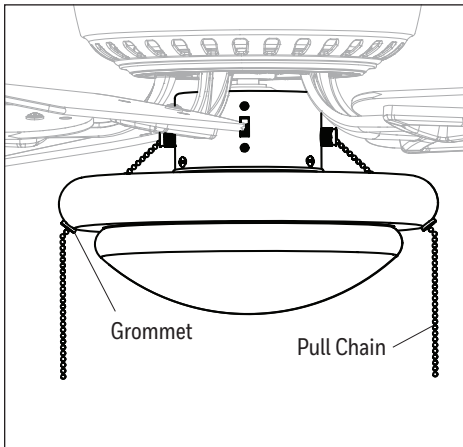

Figure 4.7
7. Feed the two pull chains coming from the switch housing down through the grommets in the light kit (Figure 4.7).